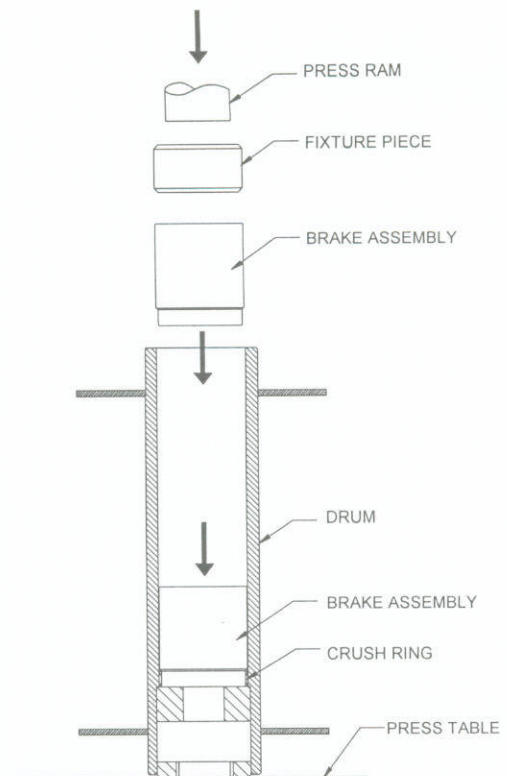

Figure 2.18
1. Slide the crush ring into the drum all the way down until it stops against the splined end wire rope retainer (*Figure 2.18*).
2. Using a 2-3 ton press and the fixture piece provided, press the brake into the crush ring until it stops against the wire rope retainer in the drum. **NOTE:** The fixture piece must be used and must be over the crush ring completely (Figure 2.18).